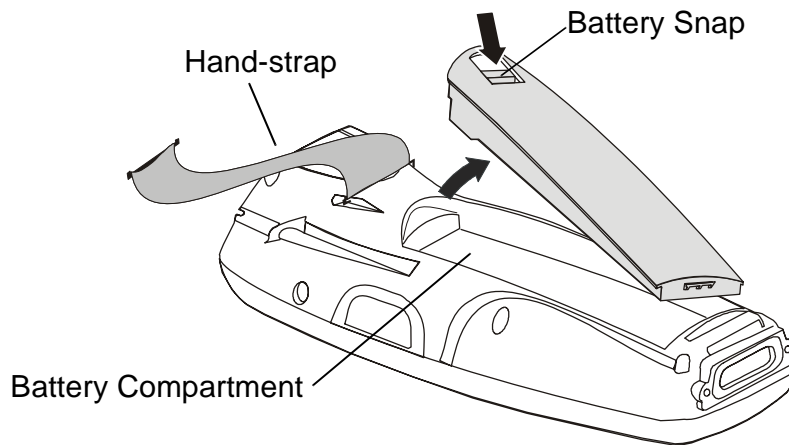

Figure 18. Battery Installation and Removal
2. Remove the HC700-G hand-strap (see Figure 18).
3. Press the battery snap on the battery (see Figure 18) and pull away the battery from the HC700-G.